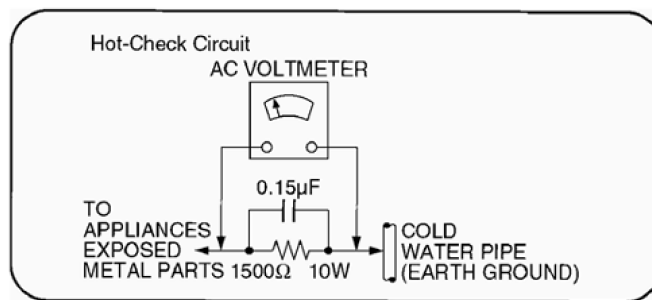

Figure 1
4.1.2. Leakage Current Hot Check (See Figure 1)
2. Connect a 1.5kΩ, 10 watts resistor, in parallel with a 0.15µF capacitor, between each exposed metallic part on the set and a good earth ground such as a water pipe, as shown in Figure 1.